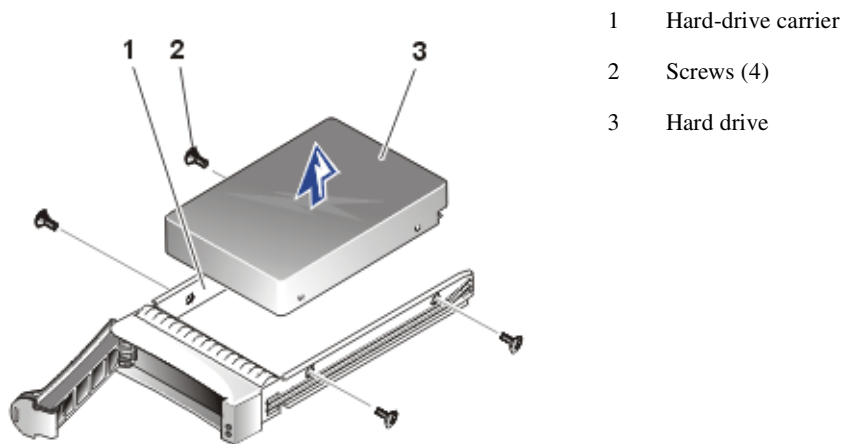

Figure 4-8: Removing the SCSI Hard Drive From the Carrier
3. Remove the four screws that secure the drive to the carrier (see Figure 4-8).